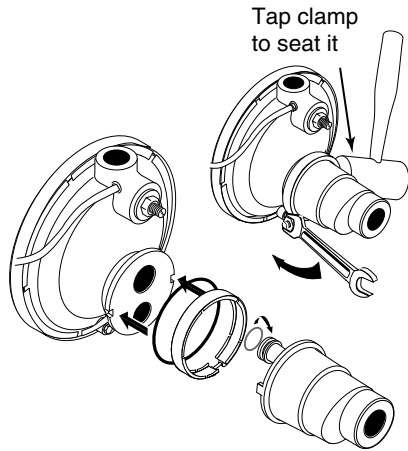

Figure 6 – Install Ejector
1. Install Berkeley ejector kit BK4875 (sold separately). Follow the instructions provided with the kit. Align the venturi with the top hole on the front of the pump (See Figure 6).